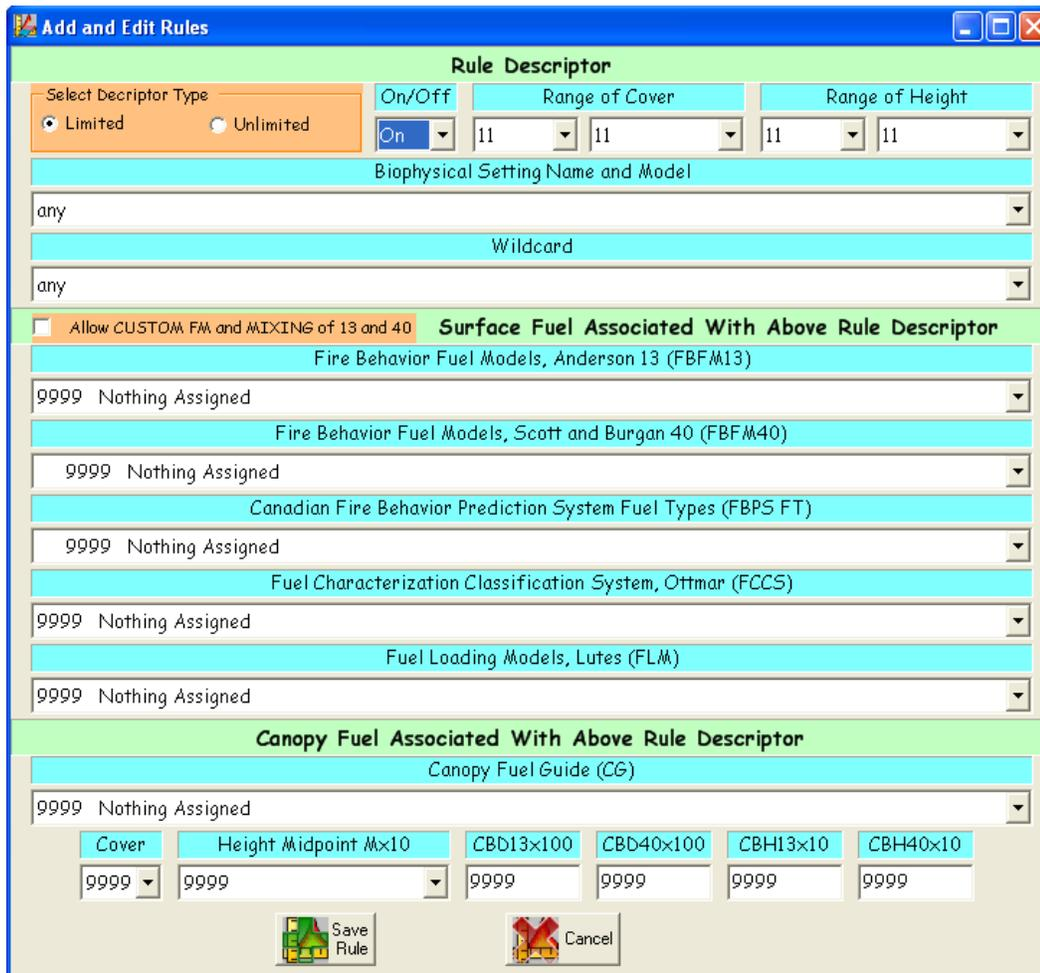

Figure 7-28. **Add and Edit Rules** dialog box.
The **Add and Edit Rules** dialog box opens as shown (fig. 7-28).
**Above Rule Descriptor**, and finally the **Canopy Fuel Associated with Above Rule Descriptor** boxes (Figure 7-28).
The **Rule Descriptor** box occupies the top portion of the **Add and Edit Rules** dialog box (fig. 7-28). Components are described as follows.
The **Add and Edit Rules** dialog box opens (fig. 7-28). Components of the Add and Edit Rule dialog box are the same as those described for the Add
- To use the Edit Rule option, you will need to complete the required input for the **Rule Descriptor**, **Surface Fuel Associated with Above Rule Descriptor**, and finally the **Canopy Fuel Associated with Above Rule Descriptor** boxes (Figure 7-28).